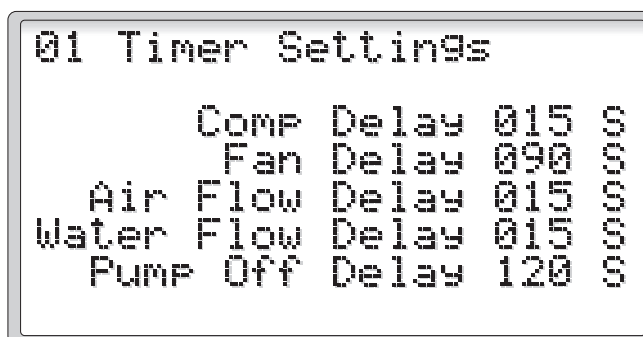

Figure 38
2.3.3.1.3 Timer Settings (Figure 38)